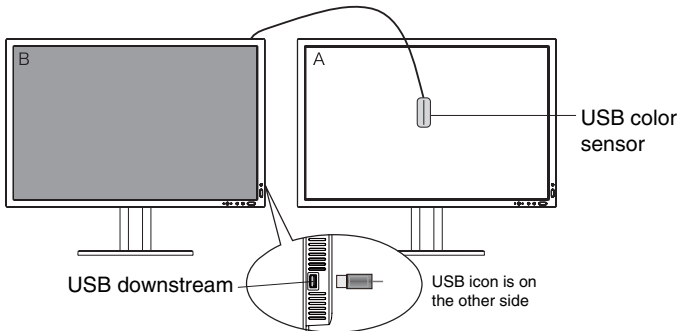
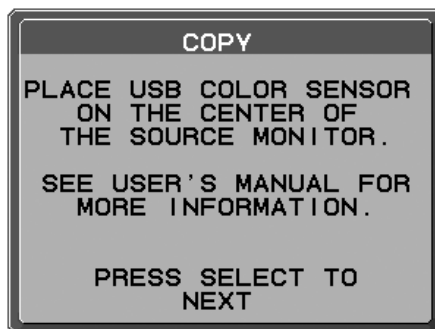

Figure C.1
Figure C.4
4. The procedure will ask for the USB color sensor to be placed on the center of the display panel (**Figure C.4**). Tilt the display panel approximately 5° backward and place the USB color sensor in the center of the display panel (**Figure C.1**).